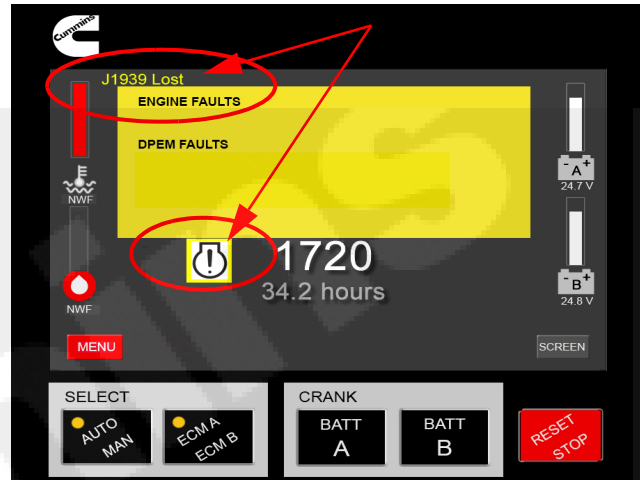

Figure 2-6 Loss of J1939 Communications
- **Communications have been lost with the ECM**. The FPDP communicates with electronically-controlled engines via J1939. As shown in Figure 2-6, if communications are lost, "J1939 Lost" will appear on the top left of the screen. The warning lamp will also illuminate and the text "NWF" (which stands for "Network Failure") will replace all digital J1939 values, except the tachometer, which will revert to using a mechanical speed sensor for engine speed detection.